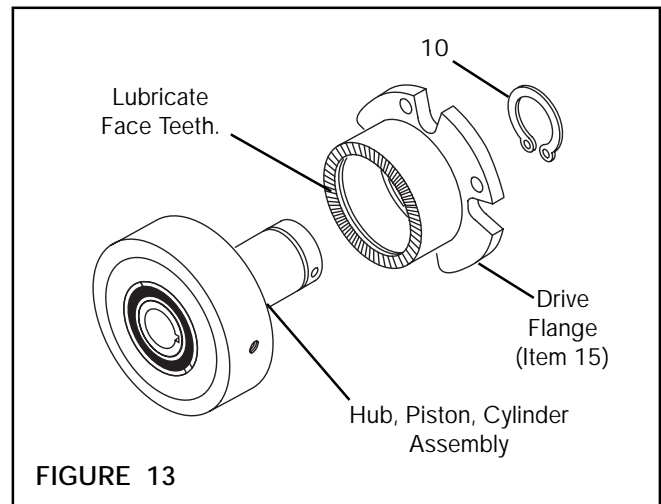

FIGURE 13
10. Lubricate Drive Flange face teeth (Item 5) with Never-Seez® (See Figure 13).
11. Fully supporting inner race of Drive Flange Ball Bearings, press Hub, Piston, Cylinder Assembly into Drive Flange Ball Bearings (See Figure 13).
12. Install Retaining Ring (Item 11) (See Figure 13).